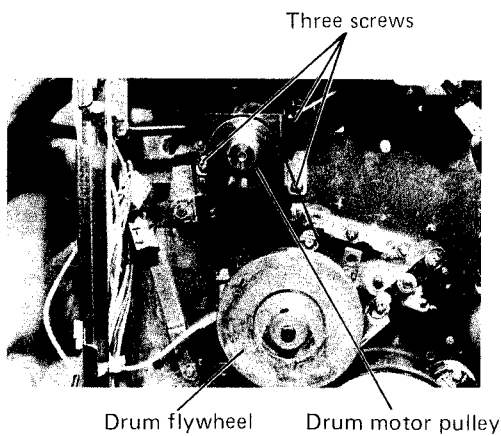

Fig. 5-17 Replacement of drum motor
1. Remove the drum belt, and remove three screws as shown in Fig. 5-17.